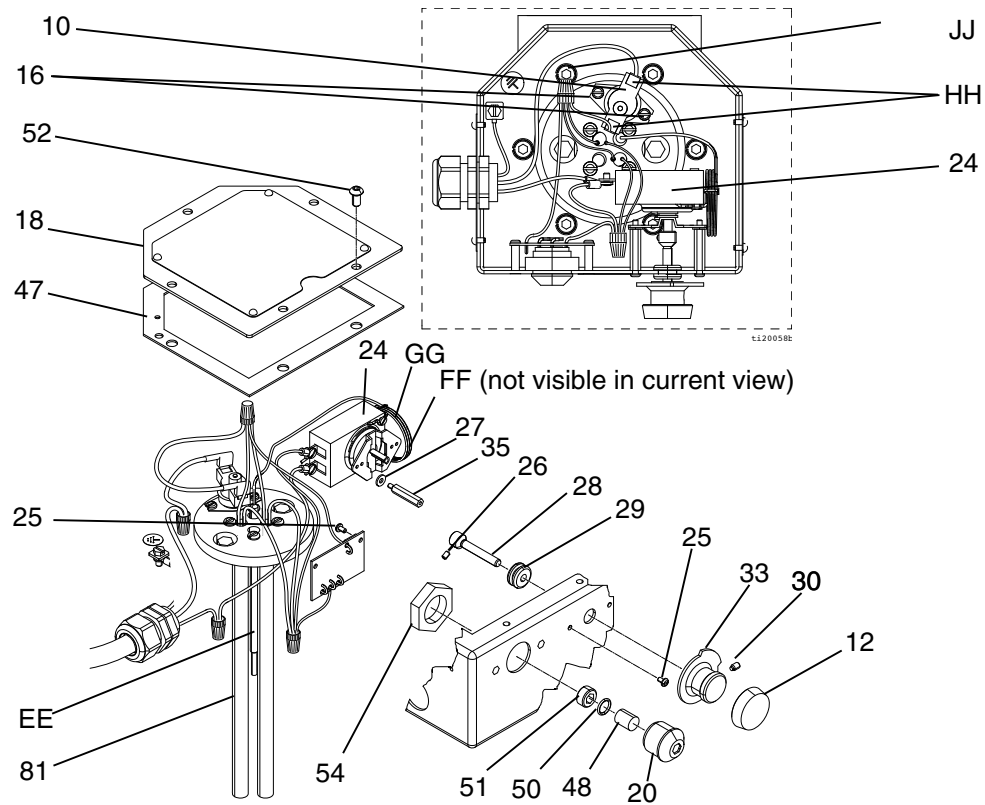
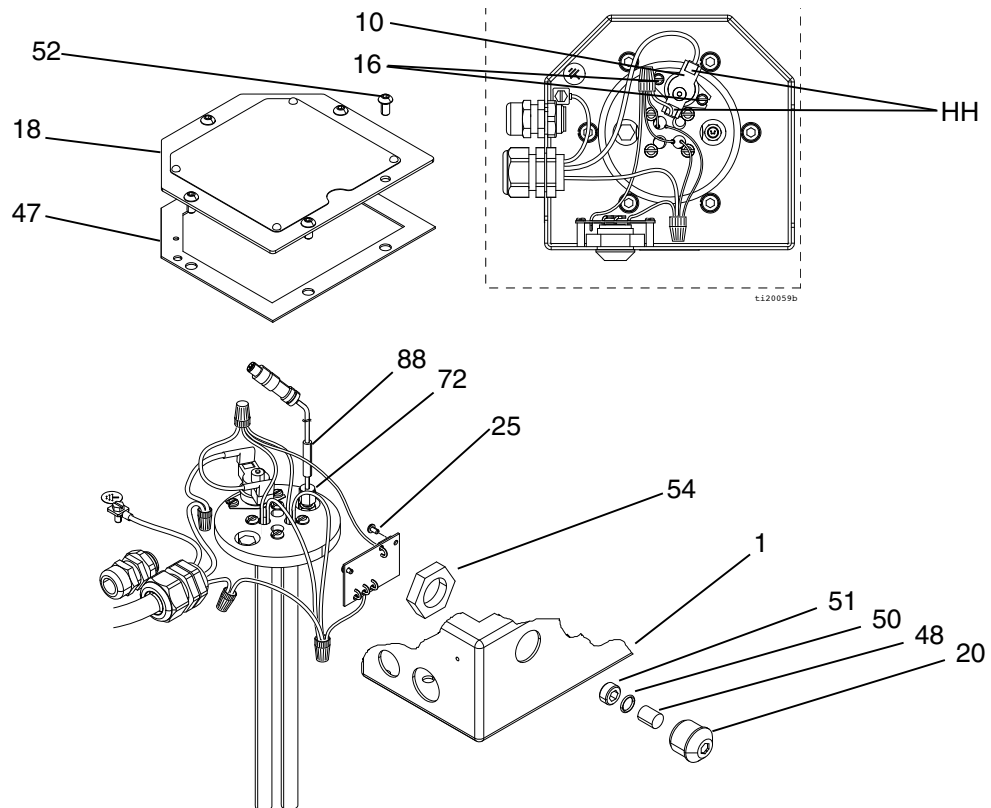

FIG. 11: Thermostat Repair
FIG. 12: RTD Sensor Repair
(For model with thermostat, see FIG. 11 on page 21)
- Refer to FIG. 11 or FIG. 12 on page 21 for wiring connections.
- *Model 262853 and 24W612 Only:* Make sure the core (68) is aligned with the plug (82) pin in housing (67).
- Make sure gasket (47) is installed and aligned with electrical housing screw holes.
- Secure cover (18) with screws (52). Torque screws to 85-90 in-lb (10 N•m).